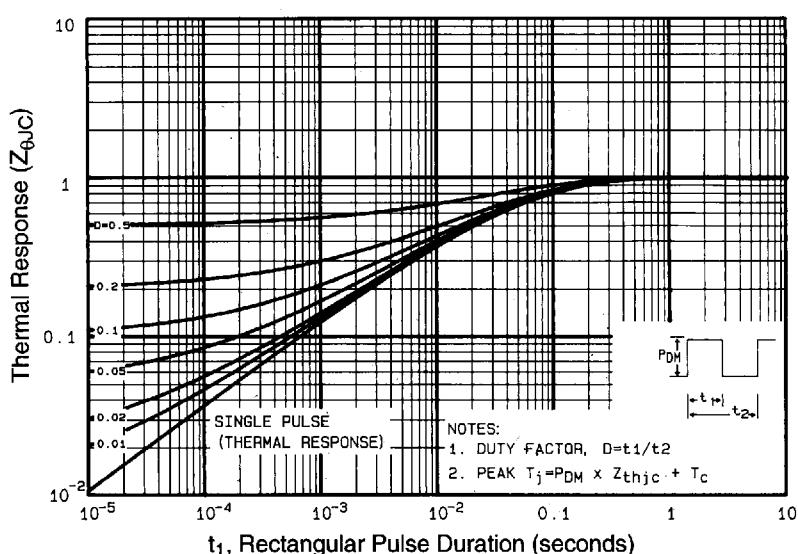

Fig 11. Maximum Effective Transient Thermal Impedance, Junction-to-Case
① Repetitive rating; pulse width limited by max. junction temperature (See Figure 11)
③ $I_{\text{SD}} \leq 10\text{A}$, $di/dt \leq 120\text{A}/\mu\text{s}$, $V_{\text{DD}} \leq V_{(\text{BR})\text{DSS}}$, $T_J \leq 150^\circ\text{C}$ ② $V_{\text{DD}}=50\text{V}$, starting $T_J=25^\circ\text{C}$, $L=9.1\text{mH}$